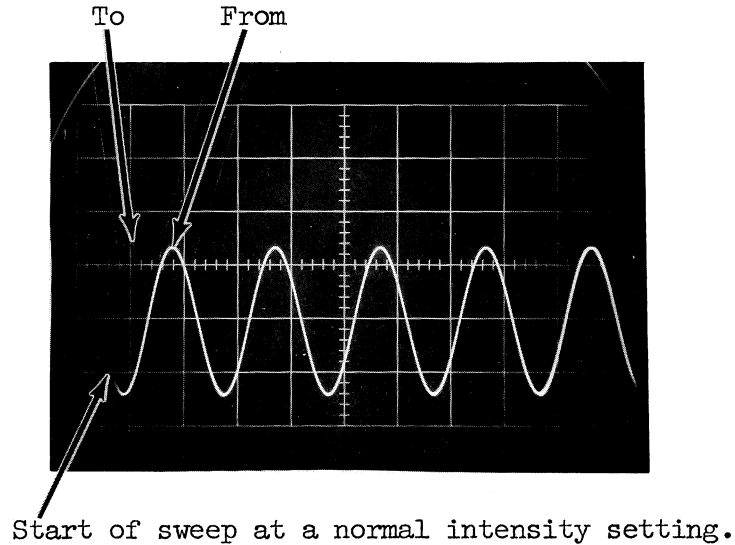

Figure 111
2. With the display intensity at a normal setting and B TRIGGERING SLOPE set to +, position the first + (positive) peak to the 2nd graticule line. (See Fig. 111)